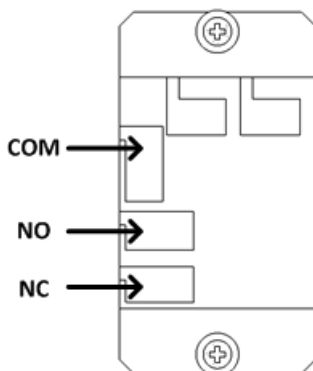

Figure 13: Testing internal contacts
1. With the power off, disconnect the quick connect from the COM, NO and NC relay terminals (Figure 13).
3. Using an Ohm meter, check that the resistance between the COM and NO is zero (0), and the contact between COM and NC is open.
4. Turn the power OFF, and check that the contact between the COM and NO is open, and check that the resistance between COM and NC is zero (0).